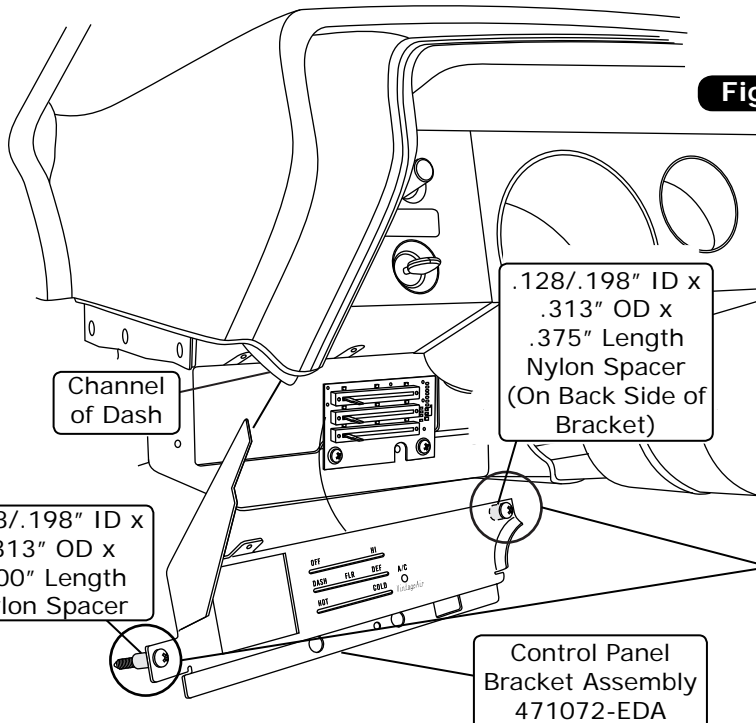

Figure 4
1. Install the control panel bracket assembly (See Figures 4 & 4a, below). **NOTE: The left side of the bracket installs into the channel of the dash same as the OEM panel.**